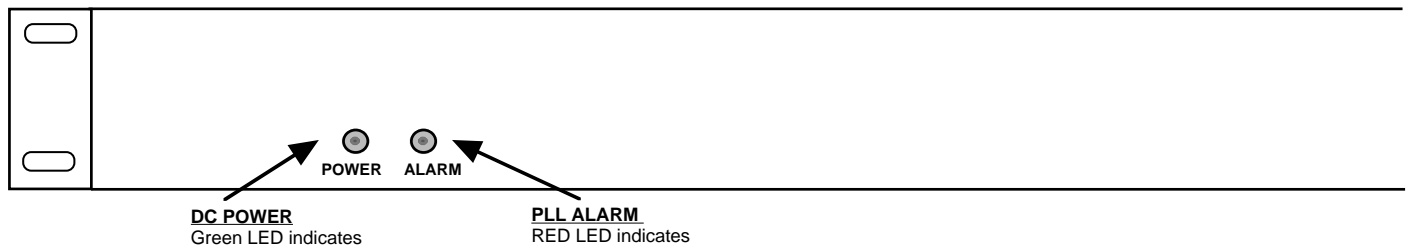

FIGURE 2.2 2083-2215-01 Front Panel Indicators
Figure 2.2 shows the front panel indicators.
7. Be sure DS6 (green, DC Power) is on and DS2 (red, Alarm) is off (Figure 2.2).